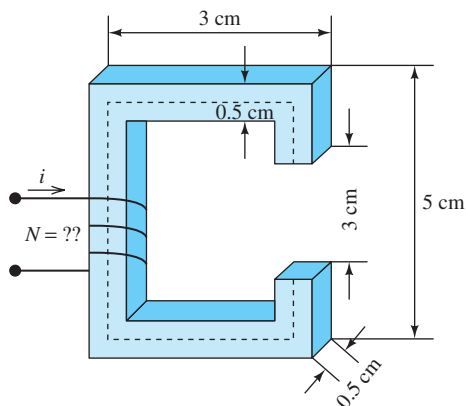

FIGURE P12.23 Magnetic circuit with air gap.
12.23 (H) It is desired that the gap in Figure P12.23 has a flux density of $B = 1$ T. Given $\mu_{r\text{core}} = 2000$ and $i = 3$ A, find the required turns ratio, N_2/N_1 .